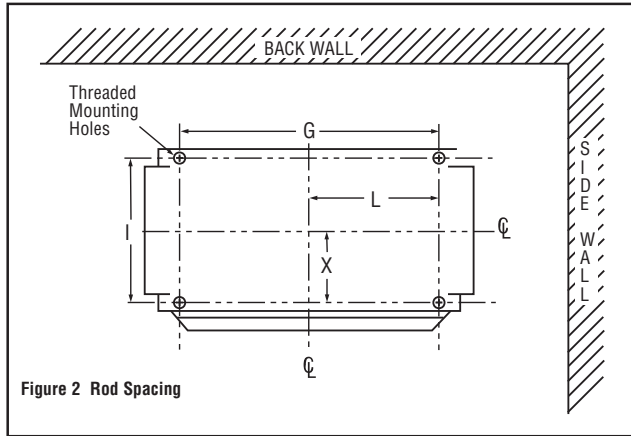

Figure 2 Rod Spacing
- The heater can be rod mounted to the ceiling by installing four threaded mounting rods in the threaded holes located on the top of the heater as shown in Figure 2. (Refer to Table 4 for mounting rod thread size.)